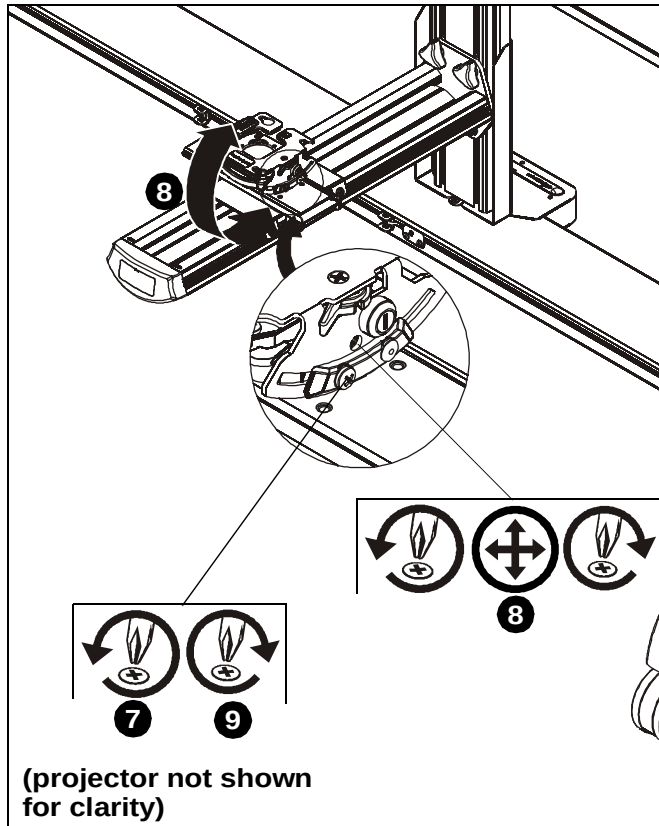

Figure 17
7. Loosen Pitch adjustment locking screw. (See Figure 17)
8. Turn Pitch micro-adjustment screw right or left until image is properly aligned on screen. (See Figure 17)
9. Tighten Pitch adjustment locking screw. (See Figure 17)